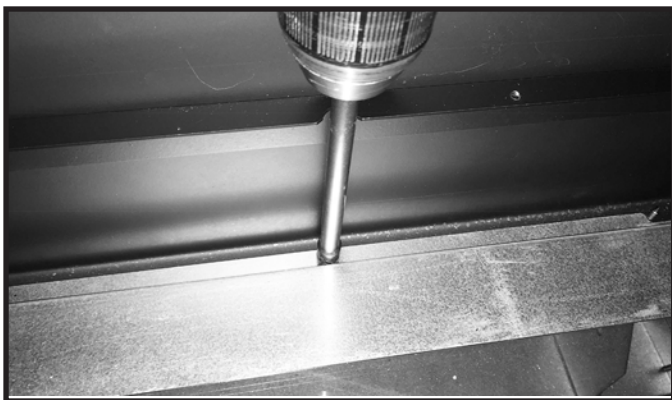

Figure 9.5 Additional Gas and Electrical Access
13. Remove the screws that secure the glass window. Remove the glass window. Handle with care. See Figure 9.5.